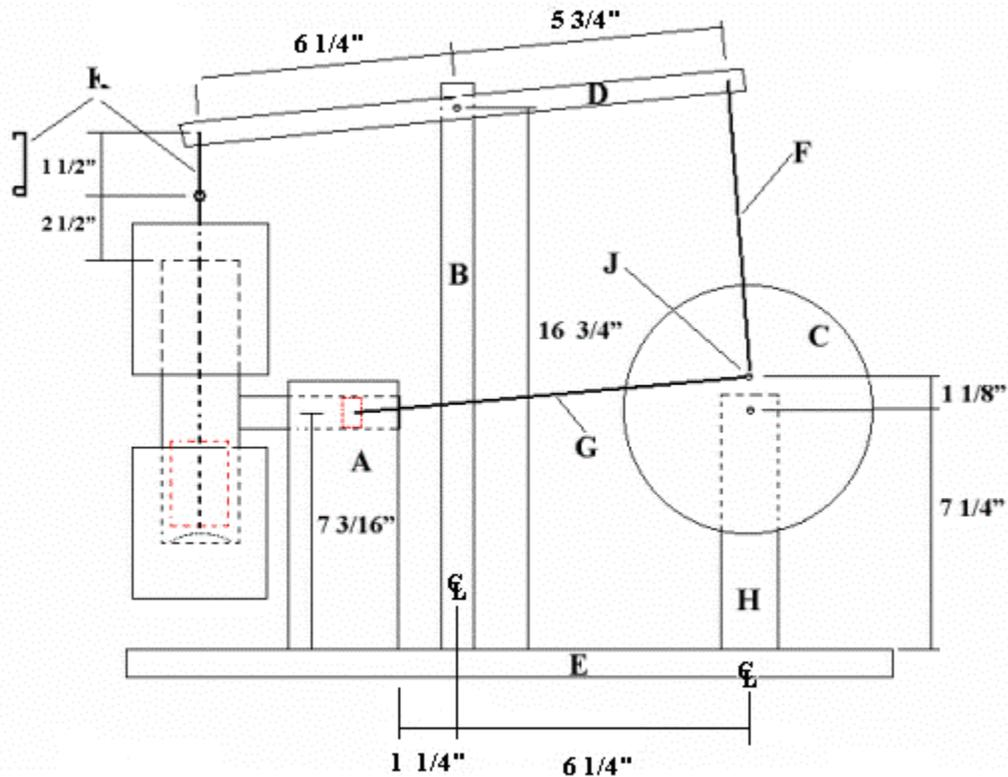

Figure No. 10
- D) Walking beam. Wood $\frac{3}{4}$ " H x $\frac{1}{4}$ " D x 13 " W with holes as noted in Figure No. 10
- K) Connecting pin. Brass 1/8" round rod 1 1/4" center to center shaped as noted on Figure No. 10